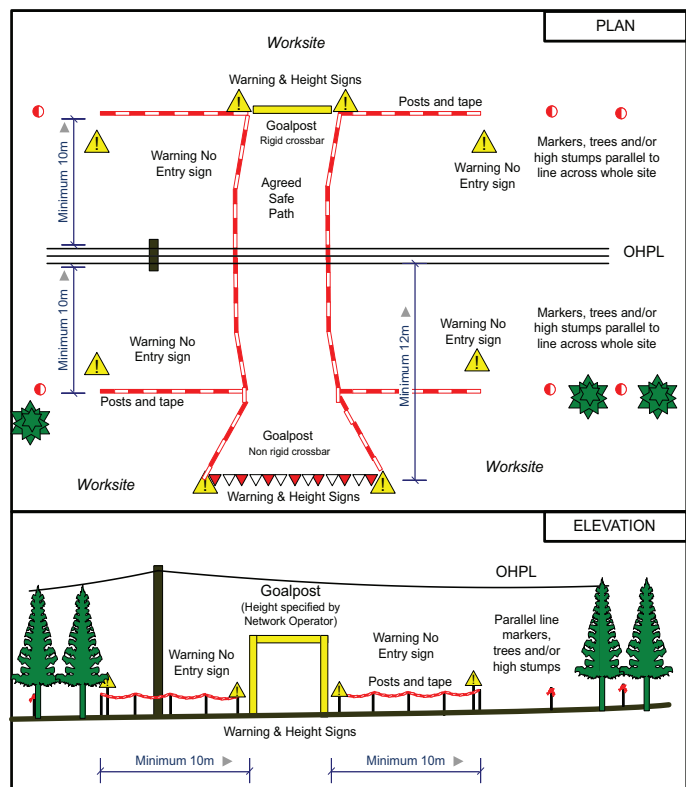

Figure 1: Site layout
- ❑ 27 Within the worksite, the FWM will clearly identify the safe clearance for driving alongside OHPLs and underground cables by providing suitable barriers. In many cases, marked trees or high stumps will form the basis of a suitable barrier, as long as there is no opening which would allow access for vehicles. The absolute safe minimum driving distance from the barriers to the OHPL is 10 m. The Network Operator may advise distances greater than 10 m depending on the voltage of the line and the nature of the terrain. See *Figure 1*.